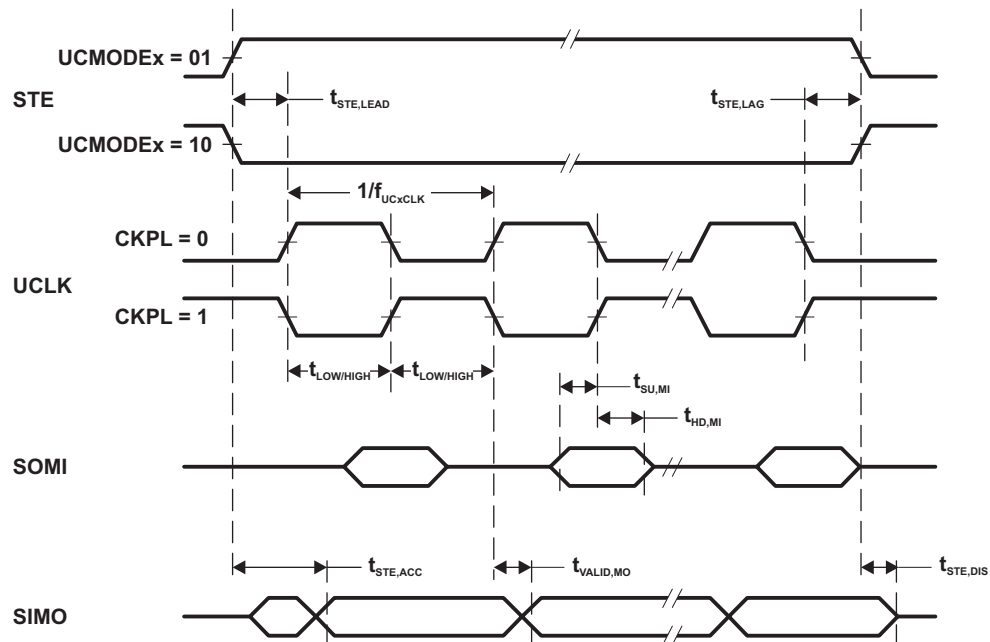
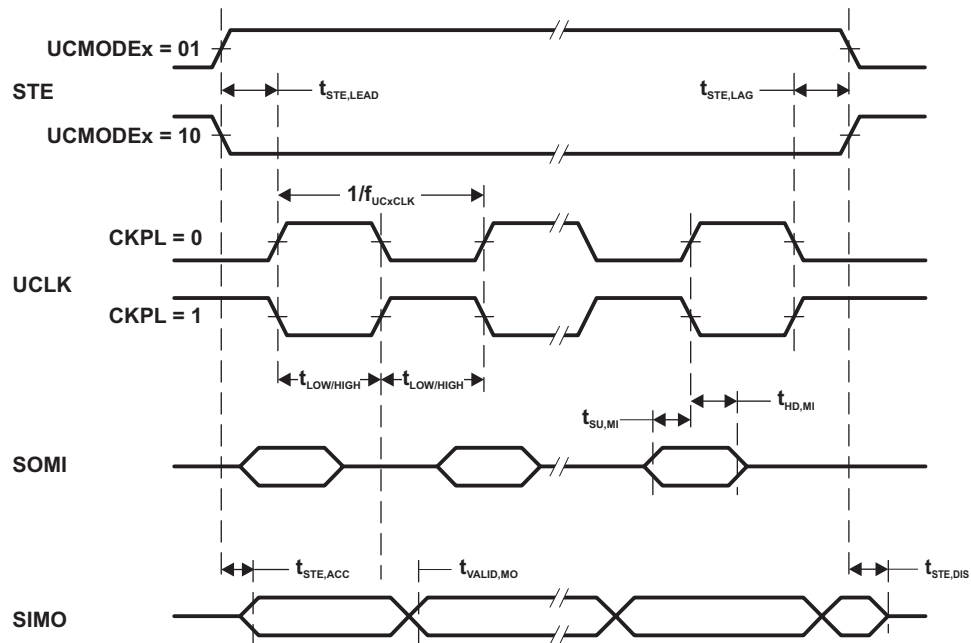

Figure 6. SPI Master Mode, CKPH = 0
Figure 7. SPI Master Mode, CKPH = 1
(1) $f_{UCxCLK} = 1/2t_{LO/HI}$ with $t_{LO/HI} = \max(t_{VALID,MO}(eUSCI) + t_{SU,SI}(Slave), t_{SU,MI}(eUSCI) + t_{VALID,SO}(Slave))$.For the slave's parameters $t_{SU,SI}(Slave)$ and $t_{VALID,SO}(Slave)$ see the SPI parameters of the attached slave.(2) Specifies the time to drive the next valid data to the SIMO output after the output changing UCLK clock edge. See the timing diagrams in Figure 6 and Figure 7.(3) Specifies how long data on the SIMO output is valid after the output changing UCLK clock edge. Negative values indicate that the data on the SIMO output can become invalid before the output changing clock edge observed on UCLK. See the timing diagrams in Figure 6 and Figure 7.